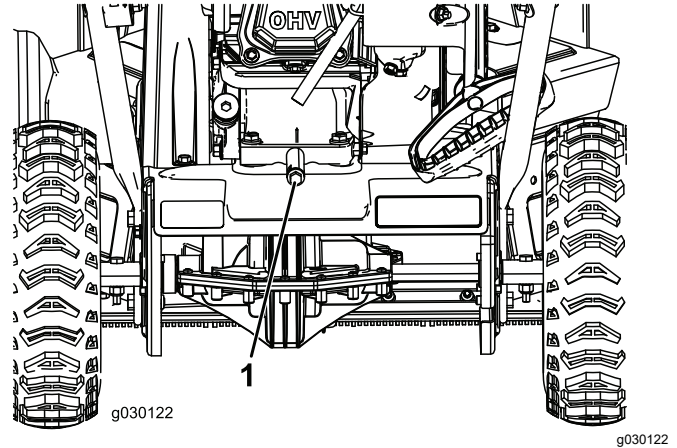

Figure 17
2. Clean the area around the oil-drain plug (Figure 17).
3. Place an oil-drain pan under the oil-drain plug, remove the oil-drain plug, and tip the machine backward and drain the used oil in the oil-drain pan (Figure 17).